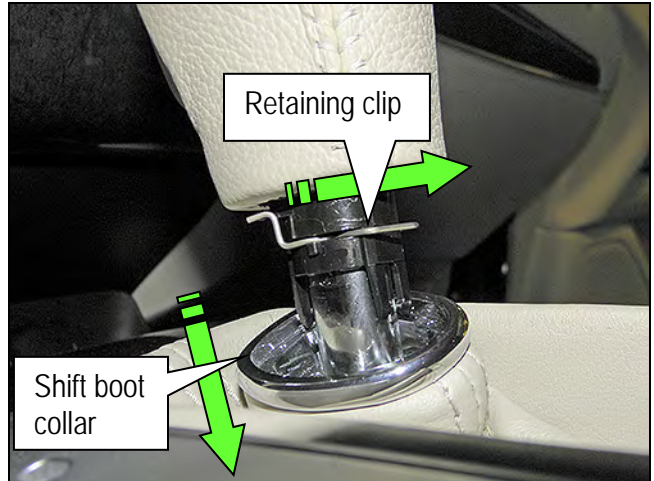

Figure 18B
a. Pull shift boot collar down (Figure 18B).
b. Remove retaining clip (Figure 18B).